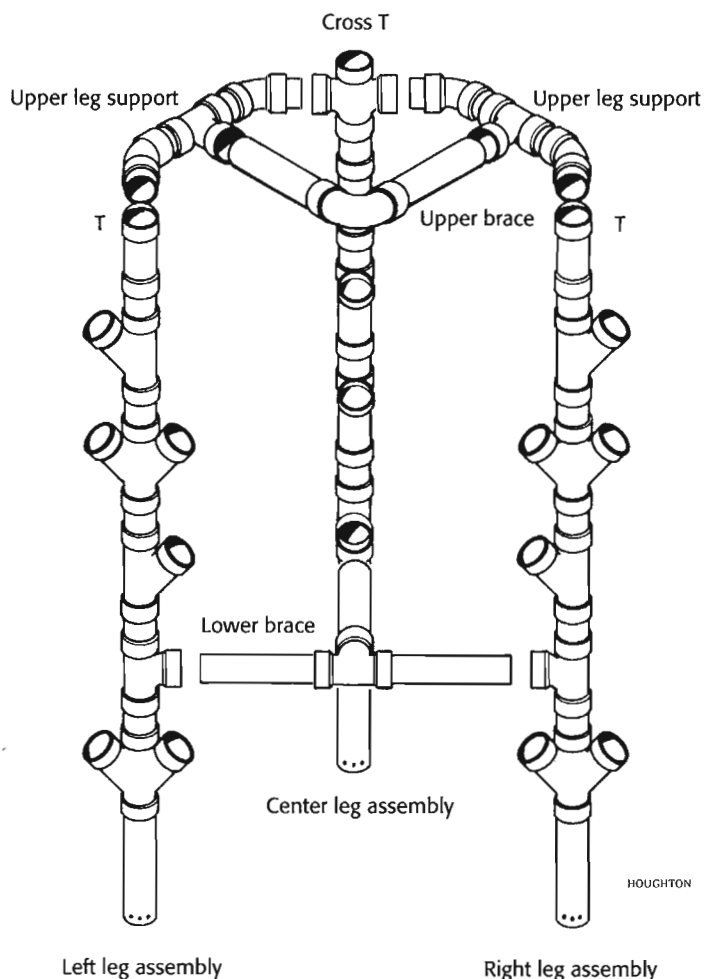

Figure 15. Proper assembly of the standing hydroponic unit
g. Assemble all seven sections together to create the completed unit (as shown in figure 15). First attach the three leg assemblies to the lower brace; the center leg assembly attaches to the pipe from the middle-center connection of the T section. Attach the upper leg supports to the center leg assembly and both outer leg assemblies; the top-inlet ends of the T sections should face toward the cross T section on the center leg assembly. Connect the upper leg supports to the top-inlet ends of the T sections on the upper leg supports.